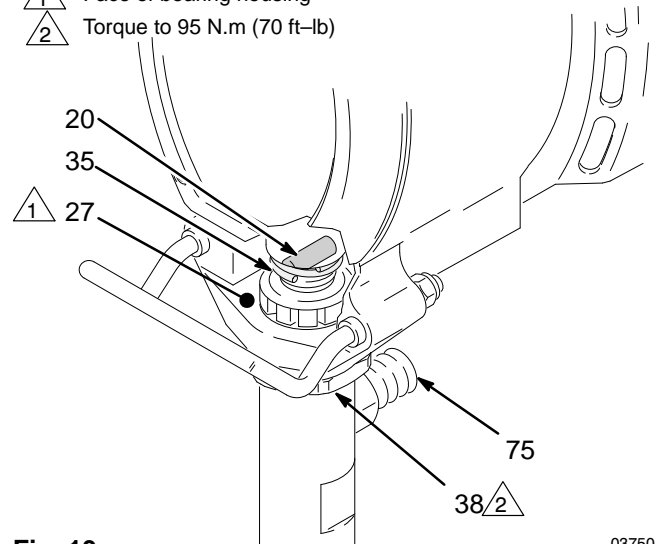

Fig. 13
9. Test the brushes. Remove the connecting rod pin (20). See Fig. 13, page 11. With the sprayer off, turn the pressure control knob fully counterclockwise to minimum pressure. Plug in the sprayer. Turn the sprayer on. Slowly increase the pressure until the motor is at full speed. Inspect the brush and commutator contact area for excessive arcing. Arcs should not “trail” or circle around the commutator surface.